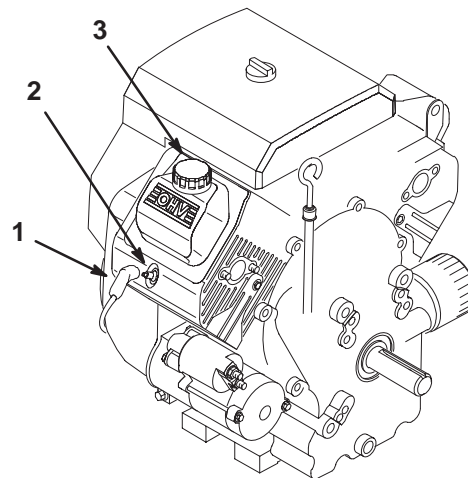

Figure 28
6. Slowly pour approximately 80% of the specified amount of oil into the oil filler tube (Fig. 28). Now check the oil level; refer to Checking the Engine Oil Level, page 11. Slowly add additional oil to bring the oil level to the FULL mark on the dipstick.
3. Pull the wire(s) off the spark plug(s) (Fig. 28). Now clean around the spark plug(s) to prevent dirt from falling into the engine and potentially causing damage.
3. Push the wires onto the spark plugs (Fig. 28).